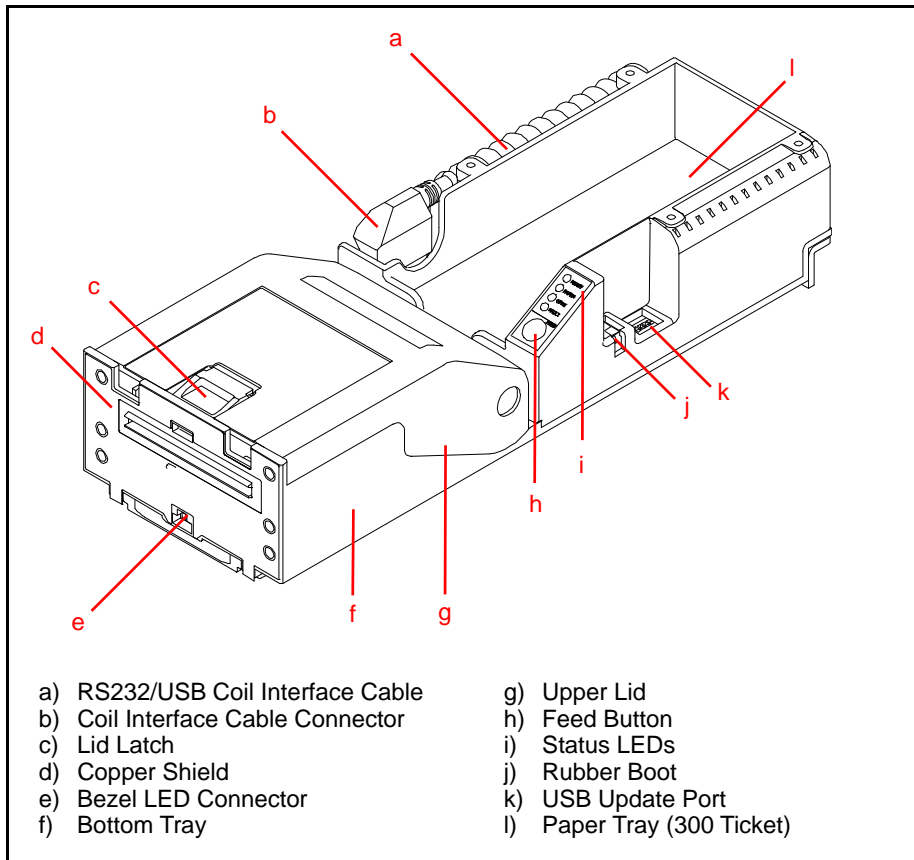

Figure 2 GEN5 Printer Component Names
Figure 2 illustrates the GEN5 Component Names and Locations.
The GEN5 Printer includes six (6) DIP Switches, located under the rubber boot (Figure 2 j) adjacent to the USB Update Port (Figure 2 k). The DIP Switches are used to set operational parameters, and vary by manufacturer.
1. Press the Lid Latch (refer to Figure 2 c on page 4) to open the Printer Lid.